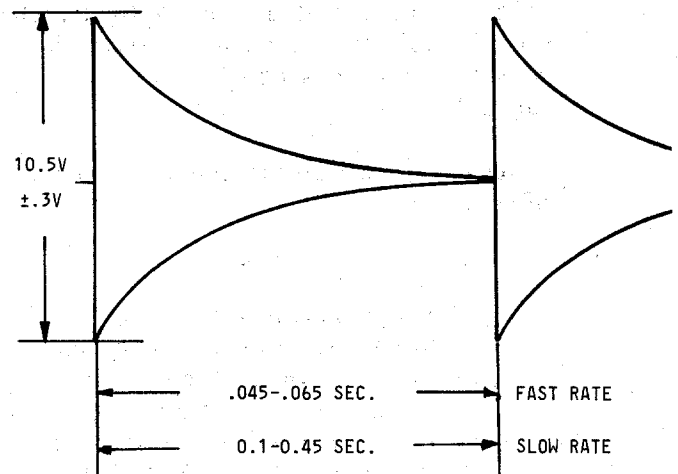

Figure 2-6
**REITERATE RATE ADJUSTMENT.** Depress CELESTA and REITERATE tabs. Adjust the Reiterate Rate control to maximum (full clockwise). Hold down upper manual key #25 and measure the duration of one complete percussion wave form on oscilloscope. It should be between 45 and 65 milliseconds (Figure 2-6). Reset the oscilloscope.